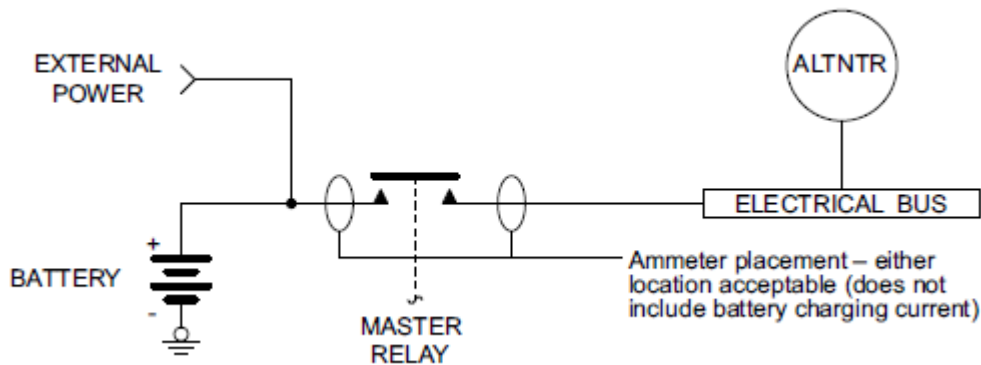

Figure 4-44 Ammeter Placement for Current Measurements
6. Insert/attach the ammeter in the line from the external power source to the master relay circuit as shown in Figure 4-44. This will eliminate errors due to the charging current drawn by the battery.